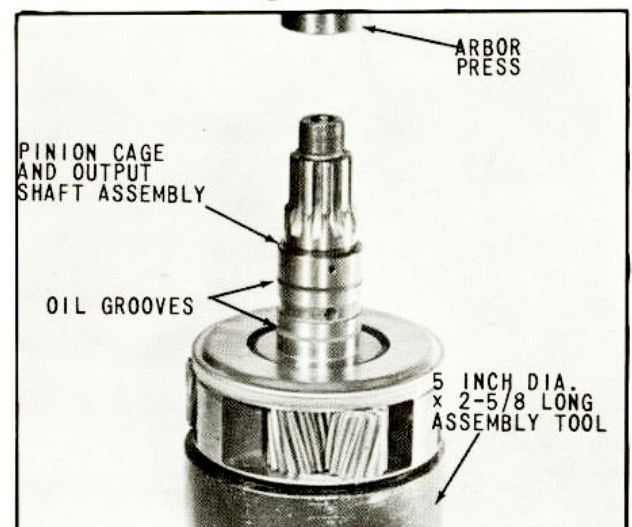

Fig. 100 Pinion Cage and Output Shaft Assembly with Oil Grooves
18. Pinion cage and output shaft assembly has been supplied with three oil grooves around the shaft diameter as shown in (Fig. 100). This shaft can be used to replace any shafts. However, shafts without the grooves must not be used with those forward and reverse transmission cases supplied without the 71-28B bushings.
19. Two versions of the transmission case have been supplied; one includes bronze bushings for the output shaft journal, the other is designed for use without the bushings. These two versions of the transmission case are completely interchangeable, except that the case without bushings cannot be used with the output shaft assemblies which do not have the oil groove (Fig. 100). Information regarding the service replacement of case bushings can be found on page 51, (Fig. 106). If it becomes necessary to replace a case of the design without bushings because of worn journals, it can be returned to your engine supplier. He can return the case to Warner Gear for reoperation and installation of bushings and can furnish information concerning the cost of this service.